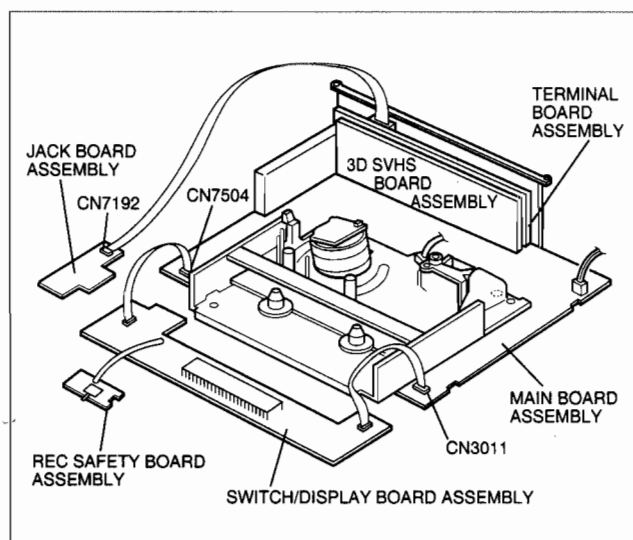

Fig. 1-4-3
- (8) Place the Switch/Display board assembly, REC safety board assembly and Jack board assembly on the front side of the Mechanism and Main board assemblies which was removed at the step (6), then connect the flat wires into CN3011 and CN7504 of the Main board assembly and CN7192 of the Jack board assembly. (Refer to Fig. 1-4-3.)
#### 1.4.3 Cassette loading and ejection methods in the "SERVICE POSITION" (See Fig. 1-4-3).
- (1) Insert a cassette halfway in the Cassette holder assembly.
- (2) Set the switch on the REC safety board assembly to ON (by pressing the switch).
- (3) As soon as the cassette starts to be loaded, set the switch on the REC safety board assembly to OFF (by releasing the switch).
- (4) Now the desired operation (recording, playback, fast forward, rewind, etc.) is possible in this status (the status shown in Fig.1-4-3).
**NOTES:** • When performing diagnostics of the tape playback or the recording condition in the "SERVICE POSITION", enter the desired mode before turning the set upside down, and do not change the mode when performing diagnostics while the set is placed upside down. If you want to switch the mode, turn the set to the normal position (the status shown in Fig.1-4-3).
- (5) The switch on the REC safety board assembly does not have to be operated when ejecting a tape. But be sure to turn the set to the normal position before ejecting the tape.